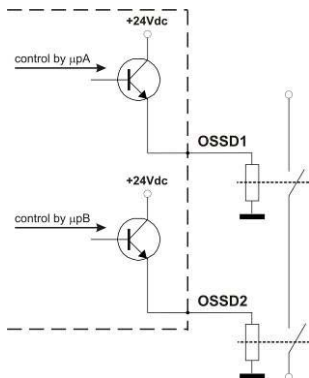

Fig. 15
- The OSSD1 and OSSD2 safety contacts cannot be connected in series or in parallel, but can be used separately (Fig.15). If one of these configurations is erroneously used, the device enters into the output failure condition (see cap.7 “Diagnostic functions”).